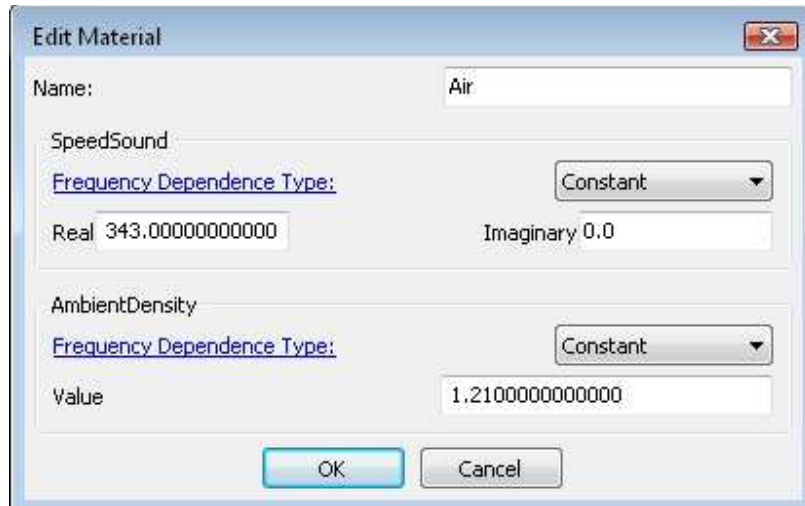

Figure 14: Edit material properties.
- In the main model menu select: **Model > Materials > Air**. Right-click on **Air** and select **Edit....** Figure 14 will appear.